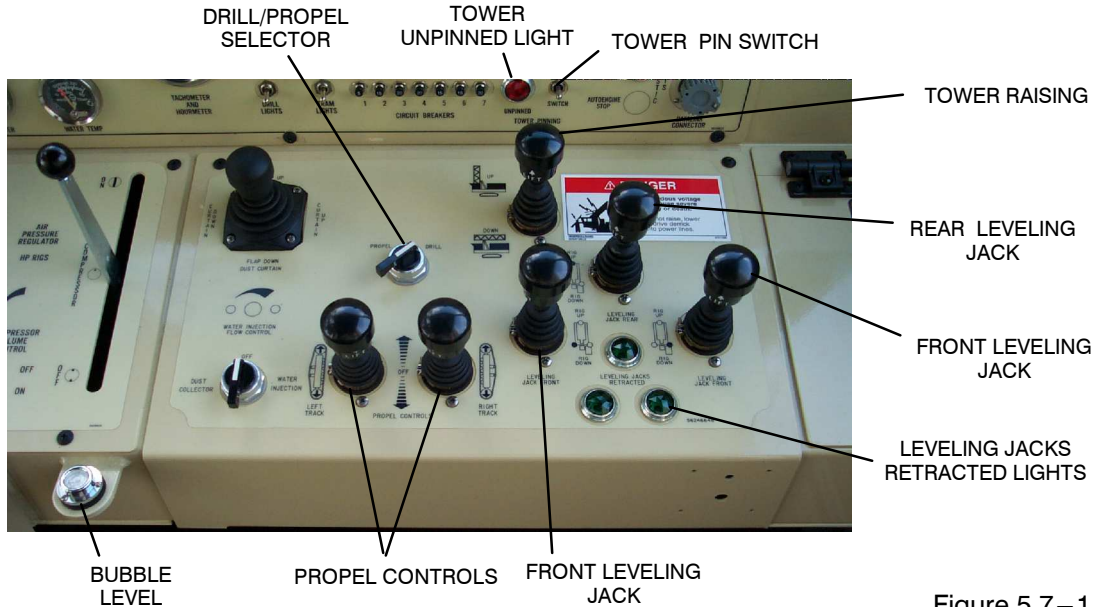

Figure 5.7-1
- a. First extend the two front (side) leveling jacks on the drilling end and level the drill side to side by adjusting the Front Levelling Jack Controllers (figure 5.7-1).
- b. Extend the rear (non-drilling) end leveling jack with the Rear Leveling Jack Controller (see figure 5.7-1) and level the drill front to back until the level bubble is centered.
Use the Tower Raise/Lower Controller (see Figure 5.7-1) to raise the tower. As the tower approaches a vertical position, slowly move the controller to its center position to allow the tower to position without impact. Never slam the tower into the vertical position.
Position the Tower Pinning switch (see Figure 5.7-1) into the locked position and check that the tower Unpinned Warning Light is not illuminated. When the pin is fully engaged, the light should extinguish.
Check the level bubble (see Figure 5.7-1) and adjust leveling jacks as necessary to center the bubble. The tower is vertical when the bubble is centered.